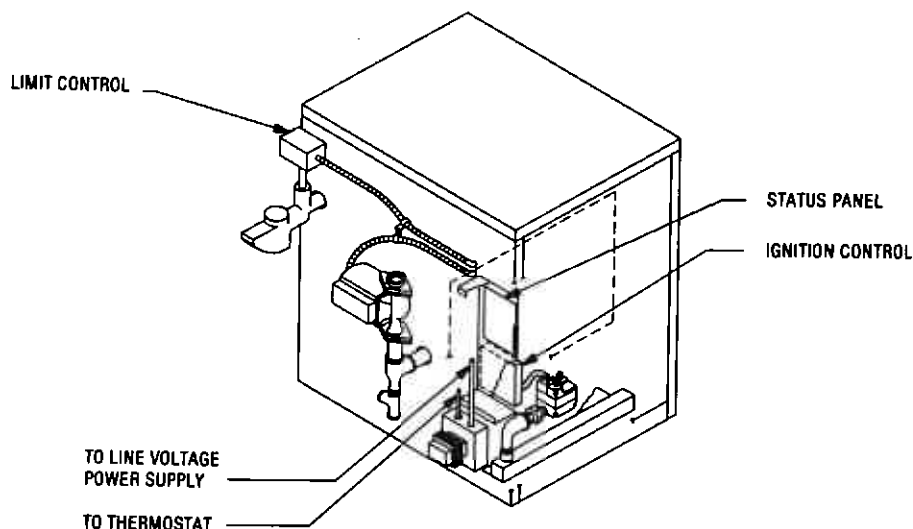
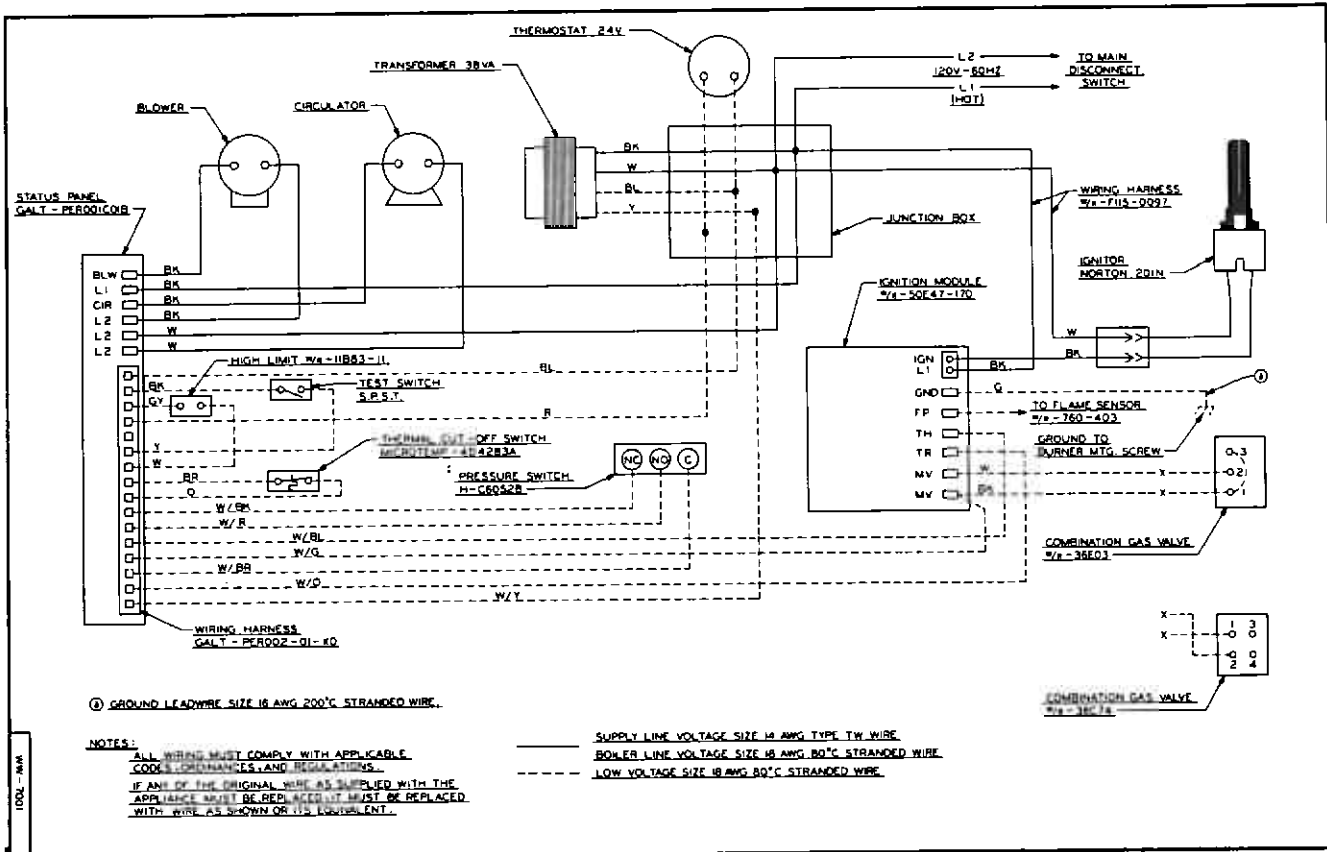

Figure 8
Figure 9
2. See Figure 8 for location of wiring and controls. For recommended wiring of controls, refer to Figures 9 thru 14.